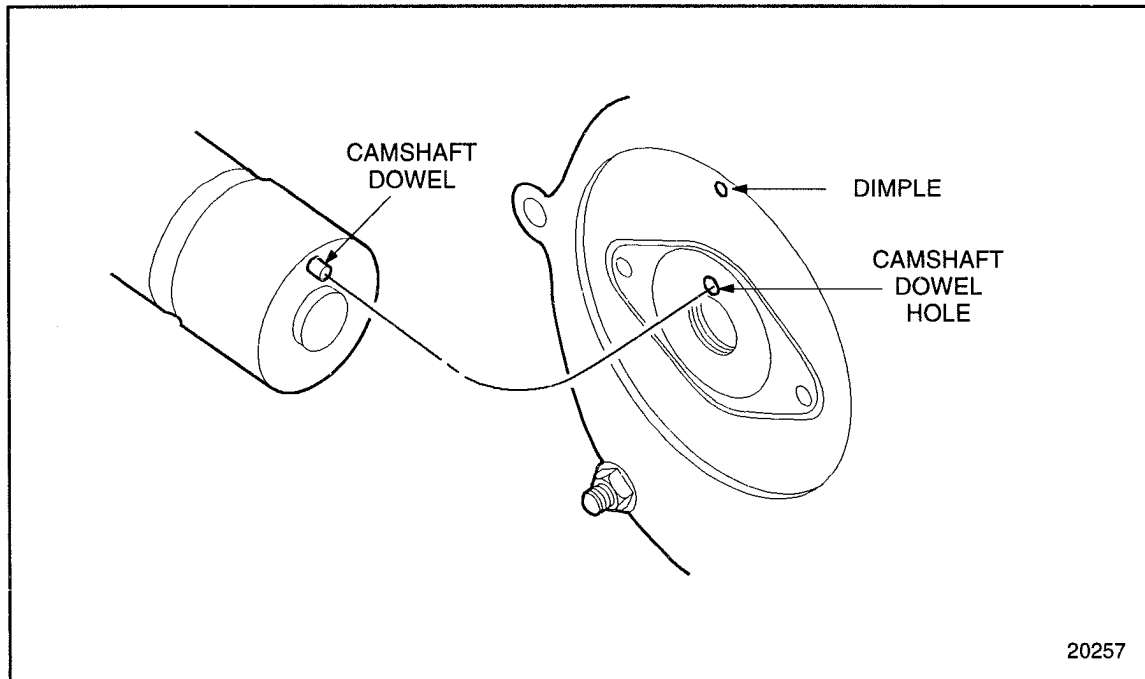

FIGURE 1-287 Indexing Camshaft Dowel
3. Before installing the camshaft dowel into the camshaft hub, ensure that the dimple in the thrust plate is located at the 12 o'clock position to properly position bolt holes to cam cap and cylinder head. See Figure 1-287.